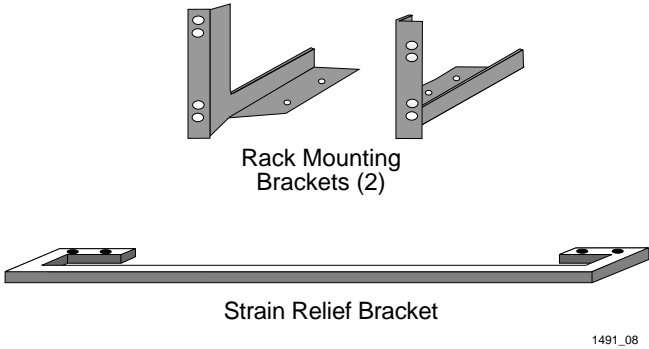

Figure 3-2. SEH Rack Mounting Hardware
The following parts are included in the SEH-ACCY-KIT accessory kit. Use Figure 3-2 to determine the correct brackets to use for this application.
- 1. Locate the strain relief bracket and four 8-32 x 3/8" screws from the accessory kit (see Figure 3-2).
1. Locate the four 8-32 x 1/4" screws and the two rackmount brackets in the accessory kit (see Figure 3-2).